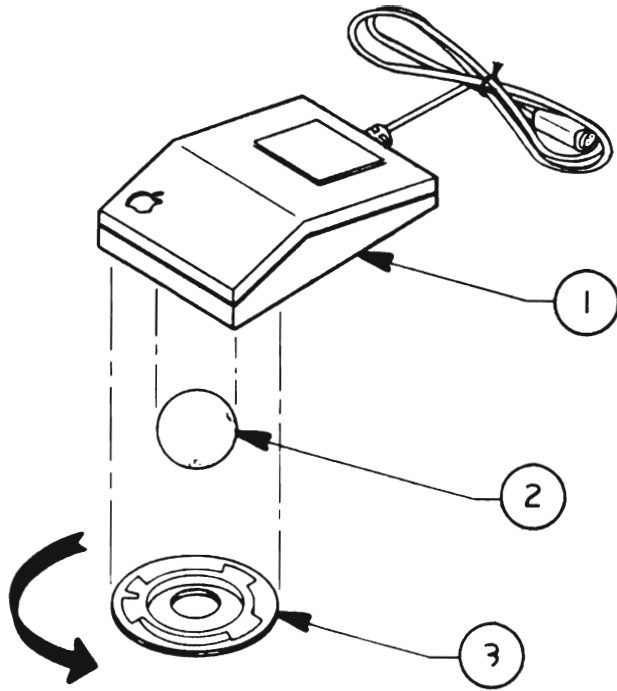

FIGURE 4
- IPL.9 Mouse (Figure 4)
## □ MOUSE (Figure 4)